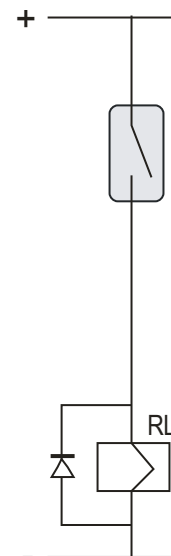

Figure 2.
- o In DC: connect one diode in parallel with the coil (figure 2)